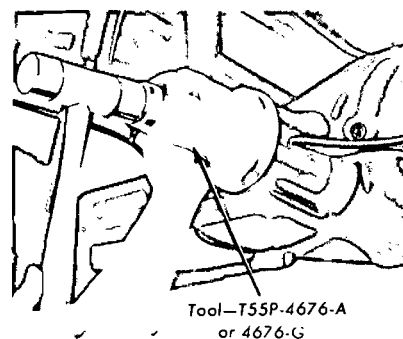

FIG. 12—Typical Drive Pinion Flange Seal Installation
9. **Pinion oil seals have pre-applied oil resistant sealer.** Install the seal in the retainer, using the tool shown in Fig. 12 on integral carrier type axles. With removable carrier type axles, use tool T62F-4676-A or 4676-H on all except vehicles equipped with high performance engines. On vehicles equipped with high performance engines, use tool 58L-4676-A or 4676-F.